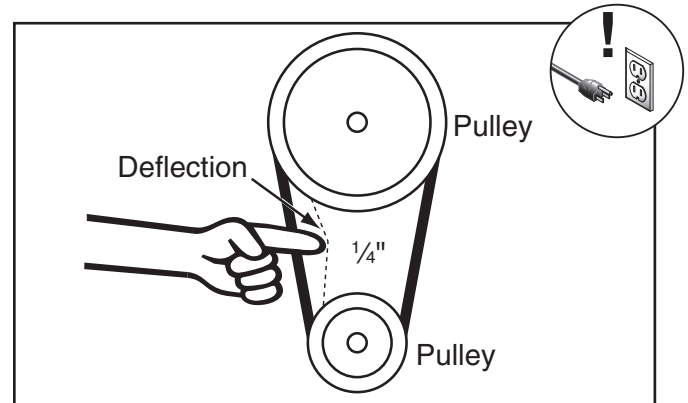

Figure 67. Checking V-belt tension.
4. To tension the V-belt, slide the motor to the left until the V-belt is snug, then tighten the bolts. The amount of V-belt deflection between the pulleys should be approximately 1/4" when moderate pressure is applied, as shown in **Figure 67**.